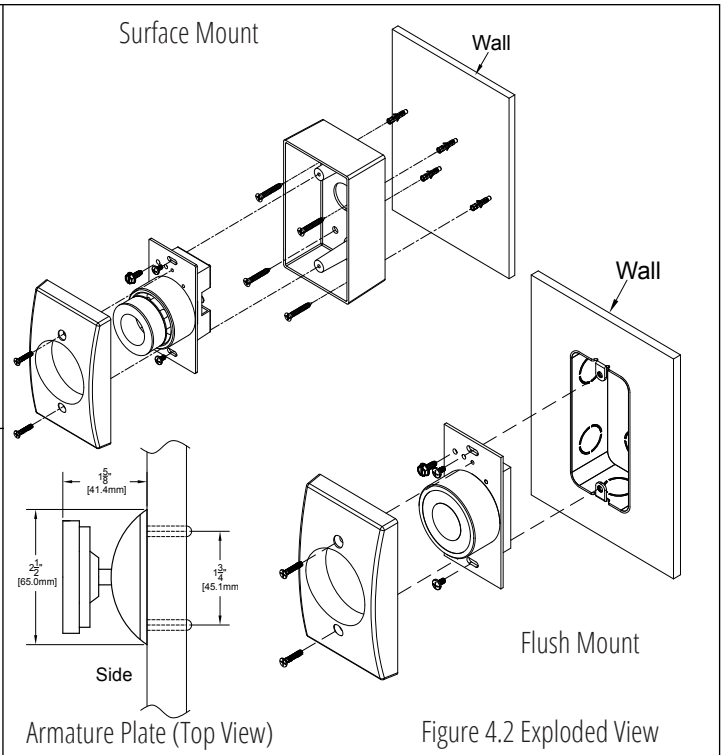

Figure 4.2 Exploded View
7. Connect the wires according to the wiring diagram shown in figure 4.2.
10. Connect the wires according to the wiring diagram as shown in Figure 4.2.
13. Mark the location of armature on the door, making sure it lines up with the door holder (extensions are available if needed.) (See Figure 4.2).